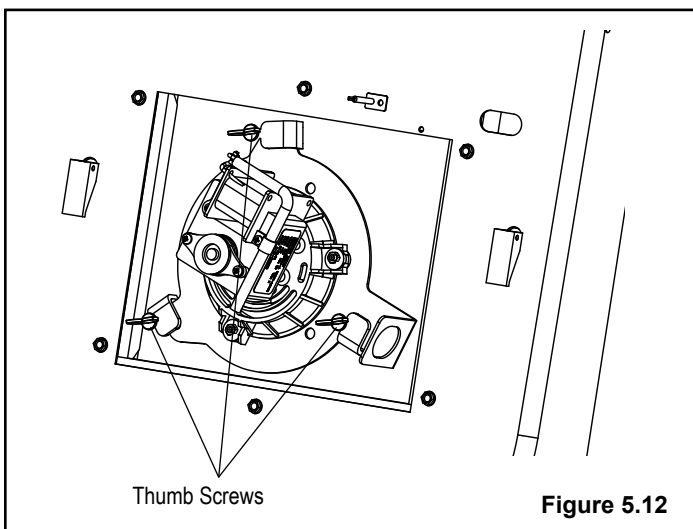

Figure 5.12
Loosen the three (3) thumb screws about 4 turns each. Figure 5.12. Hold the motor head with one hand and the blower plate handle with the other hand. Pull outward on the plate handle until the complete unit comes loose. Now rotate the plate counter-clockwise about 1/8 turn. This will allow the complete assembly to be removed from the blower chamber.